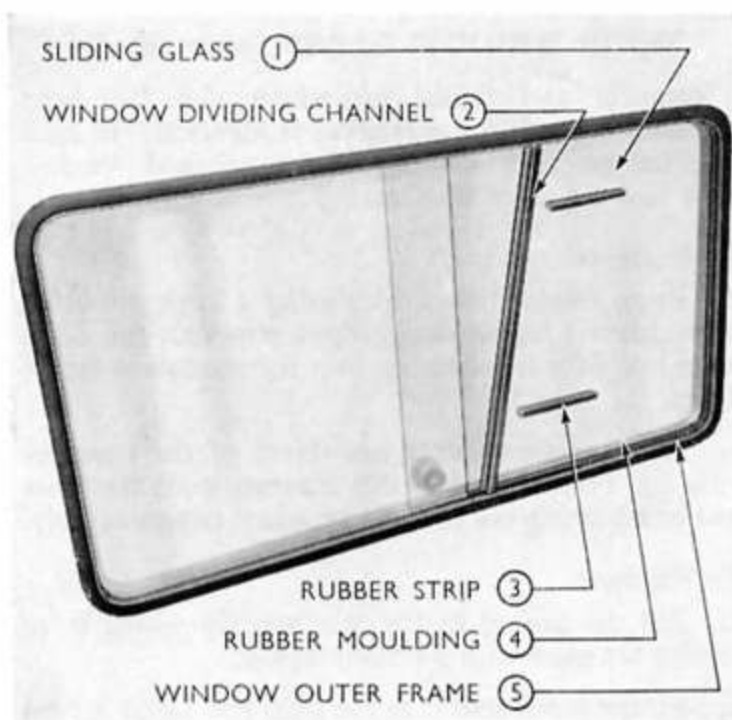

Fig. 10
1. Pull out two short lengths of rubber strip from the top and bottom inner face of the rubber moulding (see Fig. 10).
2. Using a rubber mallet, gently tap out the window dividing channel (see Fig. 10).